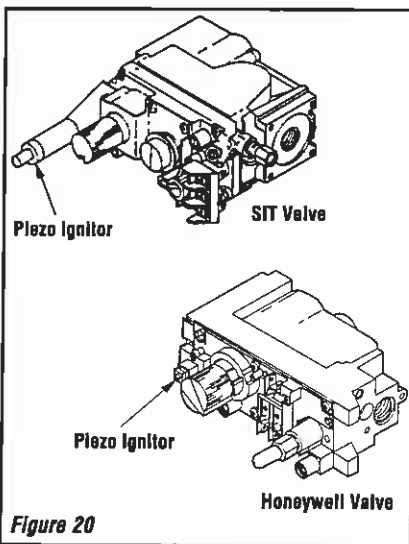

Figure 20
Step 9. Checking the System – With gas line installed run initial system checkout before closing up the front of the unit. Follow the pilot lighting instructions provided in the Homeowner's Care and Operation Instructions. For piezo ignitor location see Figure 20 (millivolt appliances only).